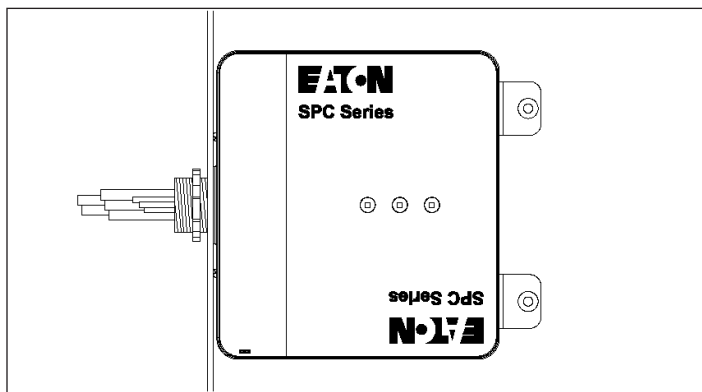

Figure 2. Preferred Installation.
**TO ENSURE MAXIMUM EFFECTIVENESS AND PROVIDE THE BEST POSSIBLE PROTECTION FOR SENSITIVE ELECTRICAL EQUIPMENT, MOUNT IN SUCH A WAY AS TO MINIMIZE THE CABLE LENGTH AND ELIMINATE ANY SHARP BENDS IN THE WIRING CONDUIT. SEE FIGURE 2.**